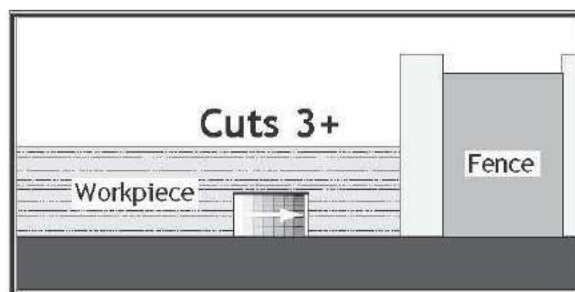

Figure 64. Additional single-blade dado cuts.
8. Make additional cuts (see Figure 64) in center of dado to clear out necessary material. Dado is complete when channel is completely cleared out.